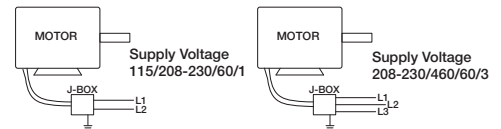

Figure 7 — Typical Wiring Diagram
a. Wire motor for desired voltage per wiring diagram on motor or refer to Figure 7 for connection wiring diagram.